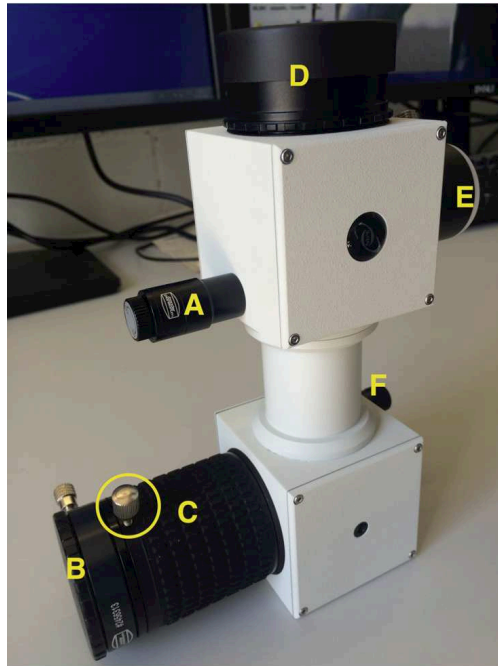

Figure 34: Spectrograph assembly: DADOS spectrograph.
- turn on the **slit illumination** (see Fig. 34).
- loosen the **Focuser fixation screw** (see Fig. 34)
- **focus the Neon spectrum** onto the ST-1603 camera by using the camera Focuser of the DADOS spectrograph. (see Figs. 34, 43)